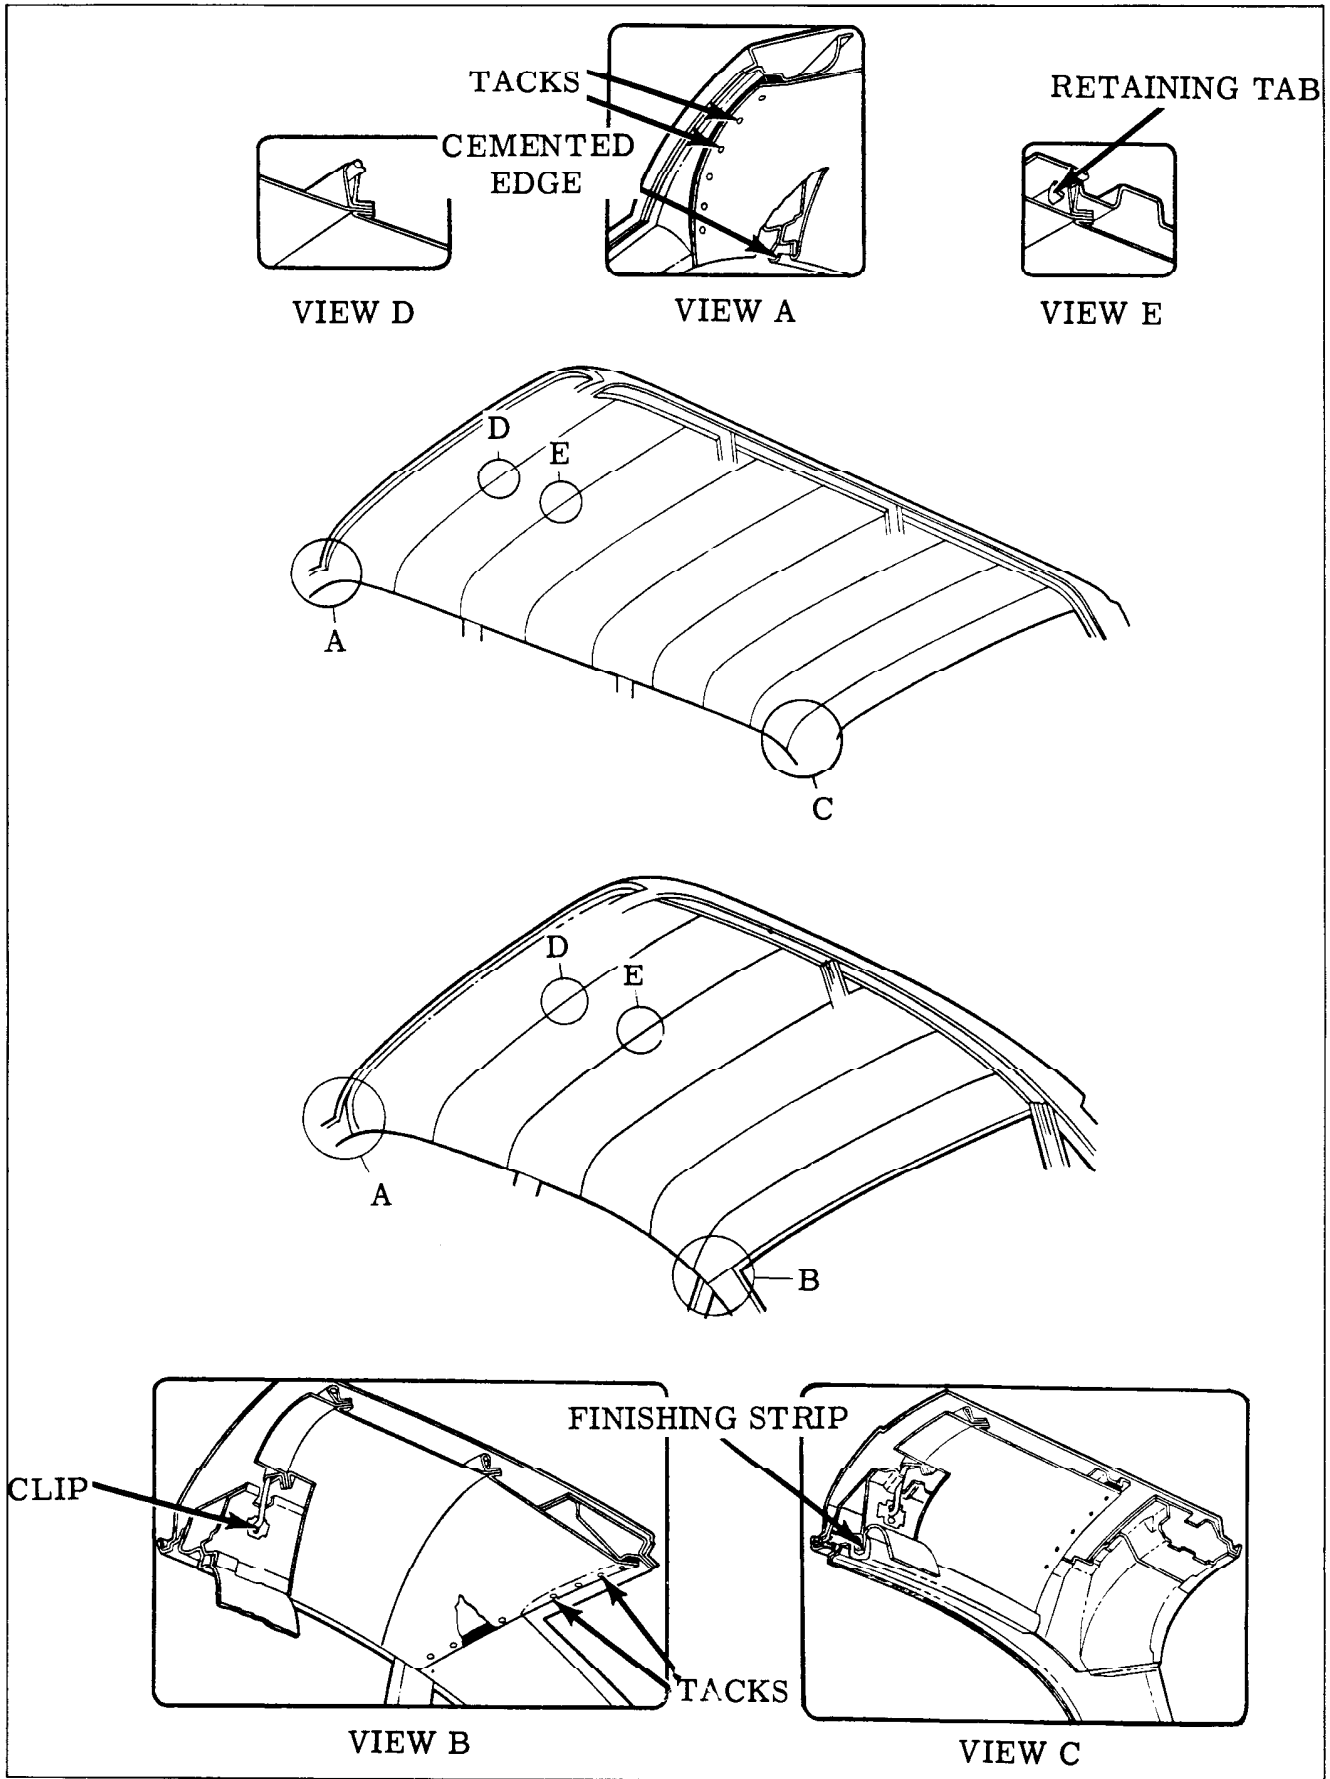

Fig. 15-72 Headlining Installation
3. Carefully detach cemented edge of headlining along each side roof inner rail including rear quarter windows on station wagon styles. (See View "A", Fig. 15-72)
4. Carefully remove tacks or staples securing headlining at windshield opening as shown in View "A" and along back window or back body opening as shown in Views "B" and "C", Fig. 15-72, then carefully detach cemented edges of headlining from openings.
6. At roof bow, bend down metal tabs, shown in View "E", Fig. 15-72, and remove listing support wire from roof bow.
4. Install headlining listing support wire over metal tabs on roof bow. Bend up metal tabs so that support wire is securely fastened to roof bow. (View "E", Fig. 15-72)